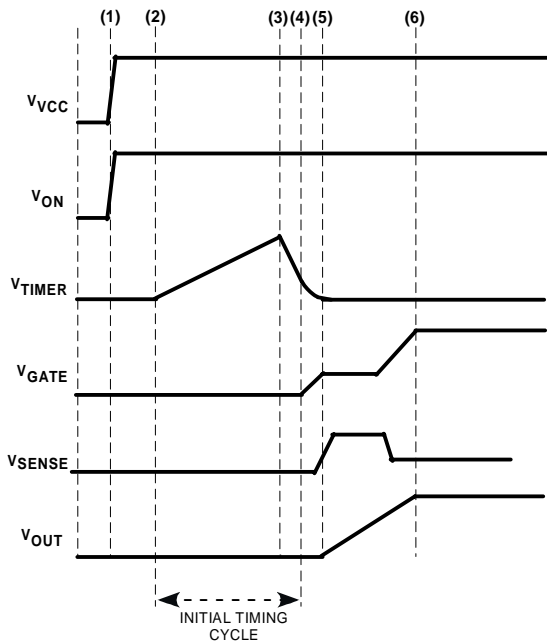
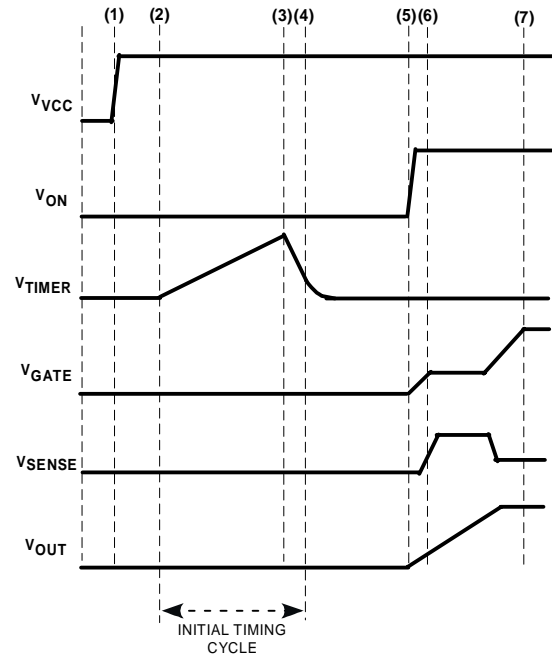

Figure 4. Start-up (ON asserts as power is applied)
Figure 5. Start-up (ON asserts after power is applied)
When VCC is first connected to the backplane supply, there is an internal supply (time-point (1) in Figure 4) in the ADM1177 which needs to charge up. A very short time later (significantly less than 1 ms) the internal supply will be fully up and, since the undervoltage lockout voltage has been exceeded at VCC, the device will come out of reset. During this first short reset period the GATE pin is held down with a 25 mA pulldown current, and the TIMER pin is pulled down with a 100 μ A current sink.
When the initial timing cycle terminates, the device is ready to start a hotswap operation (assuming ON pin is asserted). In the example shown in Figure 4, the ON pin was asserted at the same time as VCC was applied, so the hotswap operation starts immediately after time-point (4). At this point the FET gate is charged up with a 12 μA current source. At timepoint (5) the threshold voltage of the FET is reached and the load current begins to flow. The FET is controlled to keep the sense voltage at 100 mV (this corresponds to a maximum load current level defined by the value of R_{SENSE}). At timepoint (6) V_{GATE} and V_{OUT} have reached their full potential and the load current has settled to its nominal level. Figure 5 illustrates the situation where the ON pin is asserted after V_{VCC} is applied.